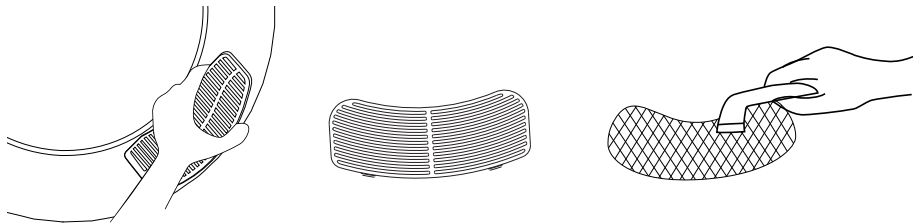

Fig.13
- To remove the Air Intake Filter, hold the upper and lower ends of the Air Intake Shroud and pull it outwards, as illustrated below (Fig. 13).